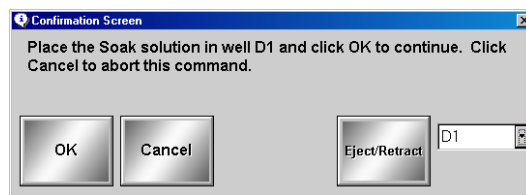

Figure 5-116 Confirmation Screen Dialog Box
6. Click **Soak** to fill the sample probe with distilled water to prevent sheath fluid crystals from forming in the sample probe. A confirmation dialog box opens. See Figure 5-116.